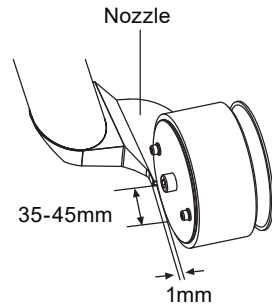
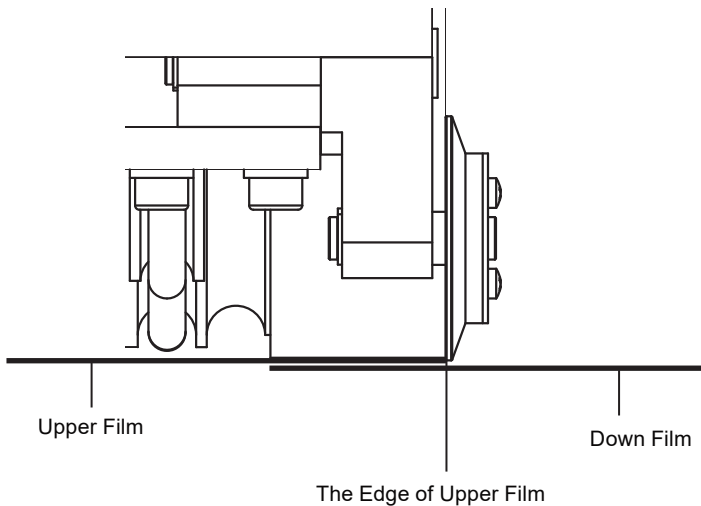

Fig 2
Fig 3
2. The distance between the air nozzle and the drive roller should be as shown in Fig 2 and Fig 3 (the distance has been adjusted before delivery). If the distance is not correct, loosen the hot air nozzle adjusting nuts for adjustment.
3. Depress lift handle to lift machine, move it to welding position (the edge of upper film should keep in the same alignment with drive roller), as shown in Fig 3.